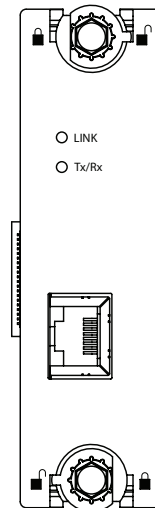

Figure 2
3. Verify that the option card knobs are in the “unlocked” position as shown in Figure 2.
The Link and Tx/Rx LEDs, shown in Figure 2, indicate the status of the Ethernet port. Refer to the following chart.